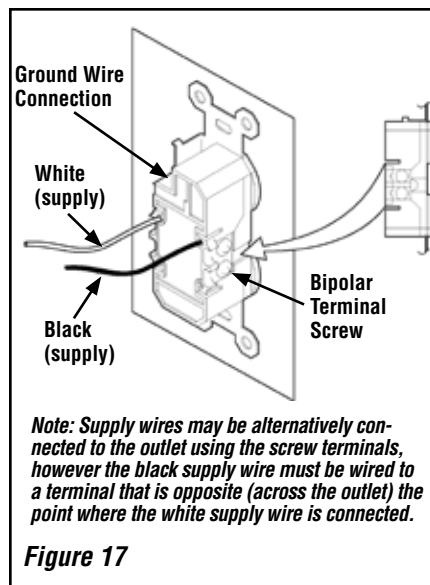

Figure 17
Ground supply lead must be connected to the wire attached to the green ground screw located on the outlet box. See Figure 17. Failure to do so will result in a potential safety hazard. The appliance must be electrically grounded in accordance with local codes or, in the absence of local codes, the National Electrical Code, ANSI/NFPA 70-latest edition. (In Canada, the current CSA C22.1 Canadian Electrical Code).
4. Wire and install the outlet receptacle to junction box, then install into the chosen corner of the control compartment as shown in **Figures 17, 18 and 19**.